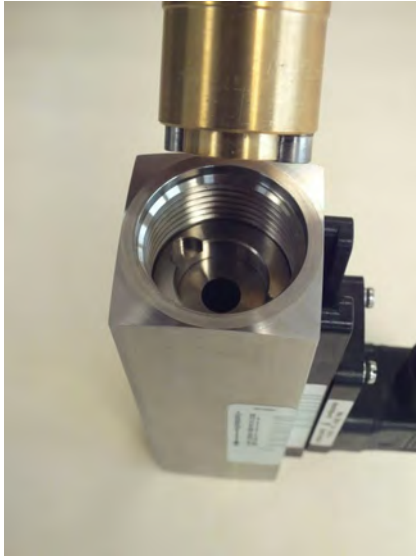

Fig. 52: Insert threaded ring insertion tool (inlet)
- 15.** ▶ Insert the threaded ring insertion tool into the device inlet (Fig. 52) and turn until it rests in the keyway of the threaded ring